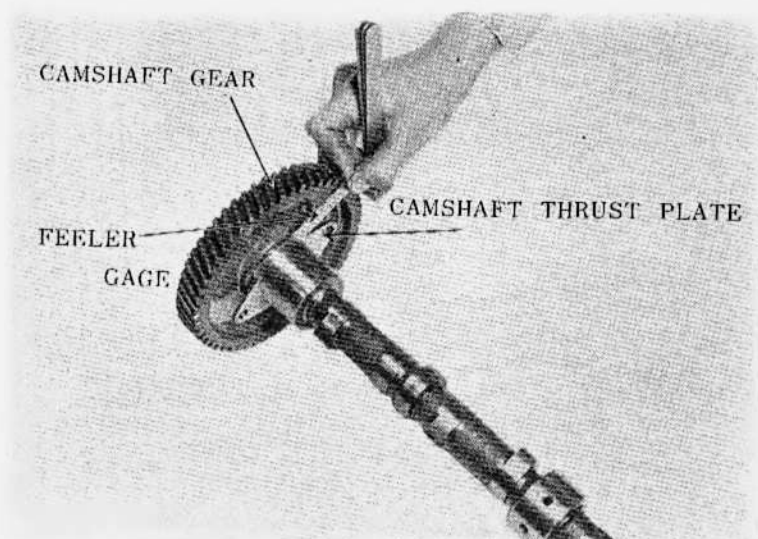

Figure 76 - Checking Camshaft End Play
- (1) If the inspection indicated that the camshaft, gear and thrust plate were in good condition, the camshaft end play should be checked (Fig. 76).